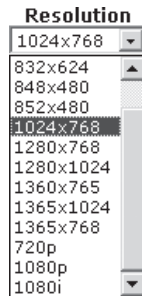

Figure 6-9 — Resolution scroll box
1. Click in the resolution field. A drop-down scroll box appears (figure 6-9).